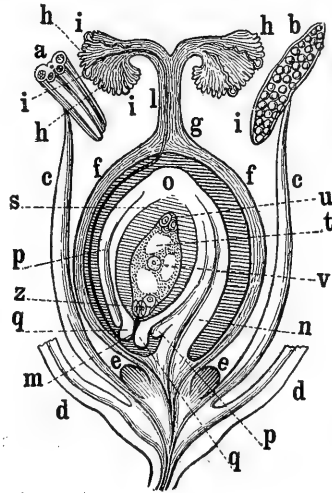

Fig. 68, Diagram of a simple flower. (Andrew's Botany.)
- 5. **Study of a flower**. Fig 68.